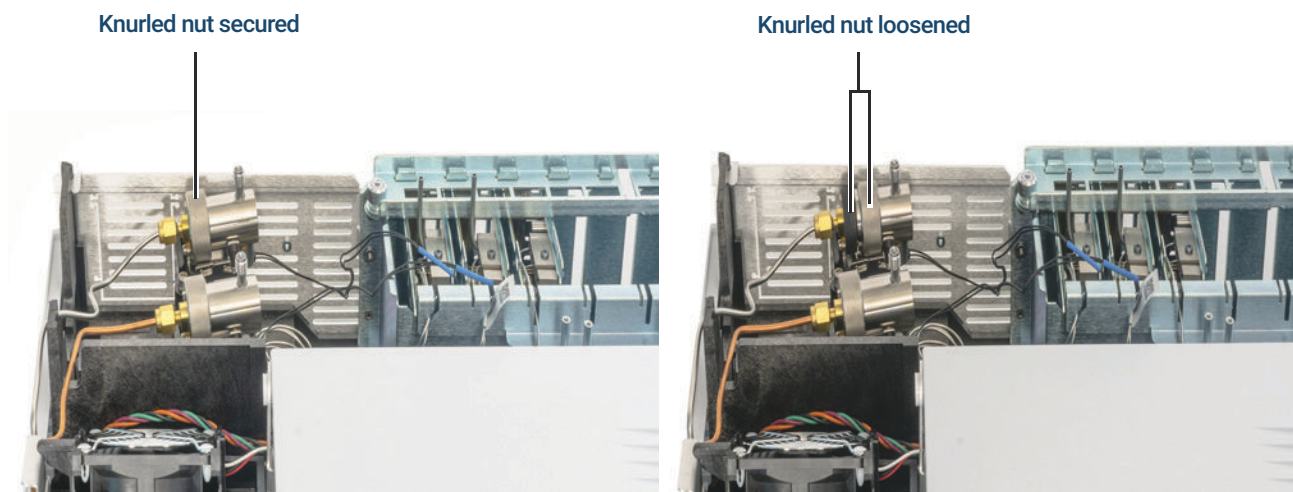

Figure 24. Loosen the knurled nut
4. Completely unscrew the knurled nut that secures the split vent trap cartridge in place until it spins freely as shown in Figure 24.